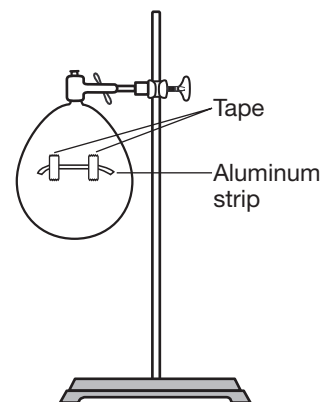

Figure 1.
3. Tape a 2 mm × 10 cm strip of aluminum foil to the widest part of the balloon, leaving 2–3 cm of the aluminum strip free at each end (see Figure 1). Make sure the center portion of the foil strip between the two pieces of tape is flat against the balloon.